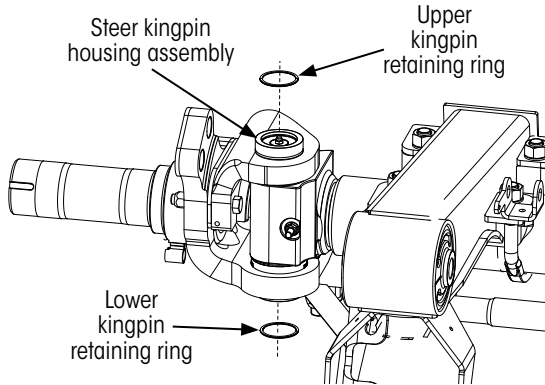

Figure 34: Installing kingpin retaining rings (Axle configuration may vary)
3. Install new retaining rings (Figure 34) snugly into inner groove of each kingpin housing assembly.
¹ Called out in Figure 34 and figure called out in last column.